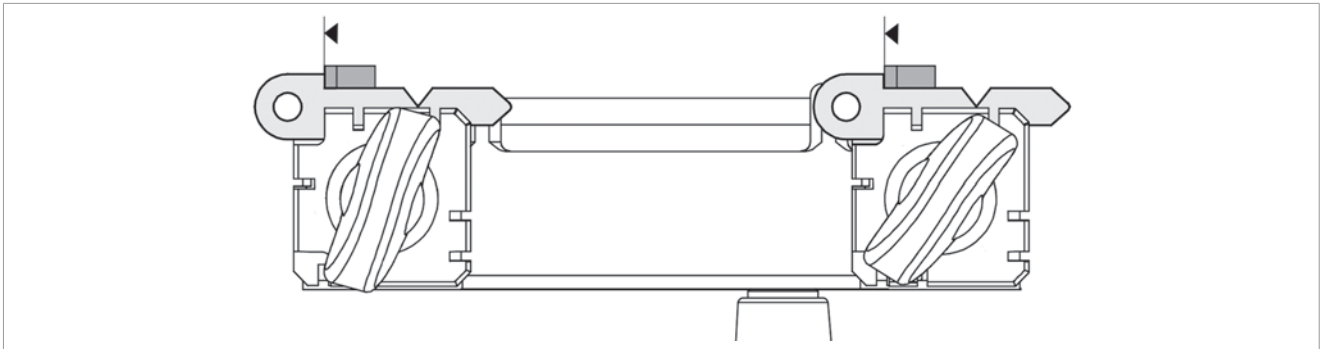

Fig. 20
- 1) **Turn off the machine with motor switch (T), turn off main power switch (N), close the switch protection cover (N1) and check that it IS NOT connected to the battery.**
- 2) Place the adjustment keys (provided) on the clamps (Fig. 20).
- 4) Turn the shoulder gauge rod towards the operator so that the gauges (Q1) are in contact with the adjusting plates (Fig. 20).